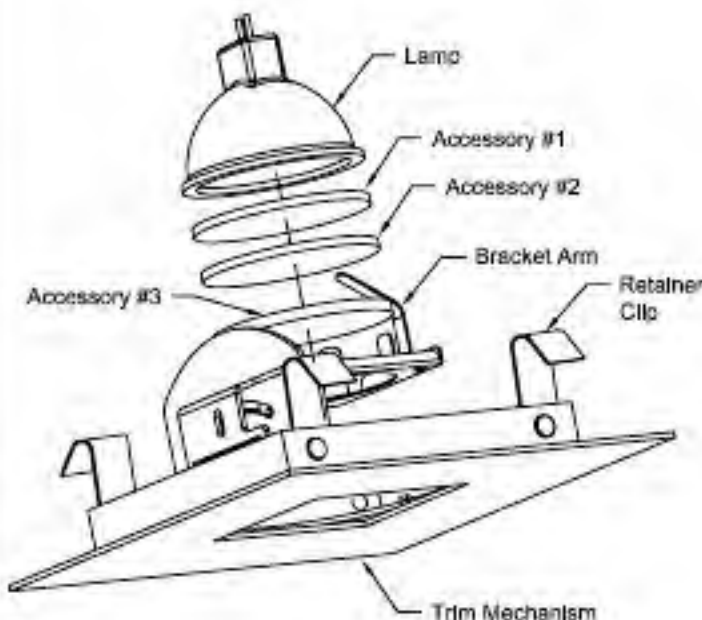

Figure 3
*Lamp Bracket accommodates from one (1) to three (3) accessories.
2. Slide out Lamp and/or Accessories from under Bracket Arm to remove. See Fig. 3.